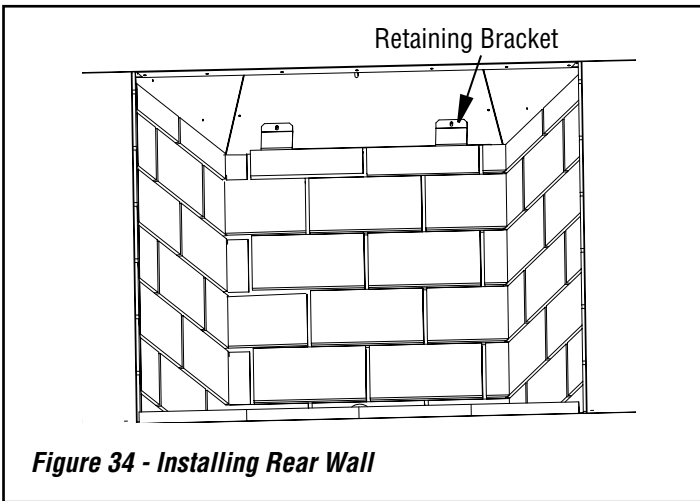

Figure 34 - Installing Rear Wall
5. Install the rear firebrick wall last. Place the wall face side down on the hearth with the bottom of the wall toward the rear of the firebox and the top toward the front of the fireplace. Tilt the wall up toward the back of the firebox. Secure with 2 rear retaining brackets provided (**Figure 34, Page 17**).